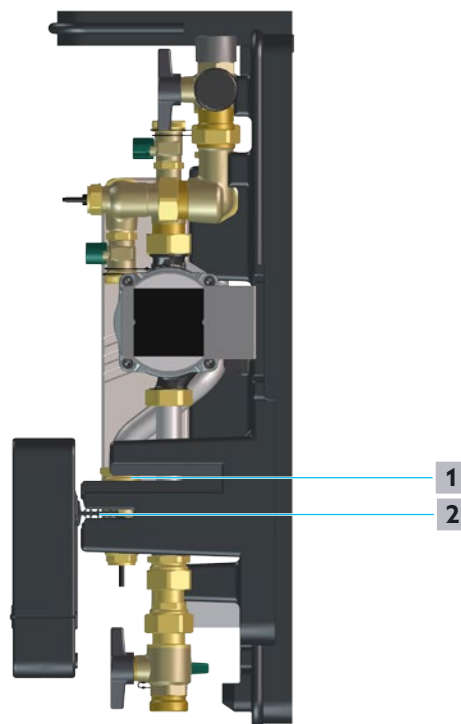

Fig. 21: Mounting position
- 2 Turn the controller and fix it in the mounting position as shown in Fig. 21 on page 26.